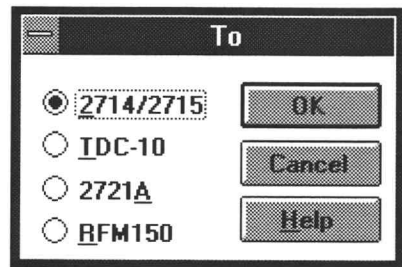

Figure C-10. The To “Selected Instrument” dialog box.
1. From the Transfer menu, choose To. The dialog box shown in Figure C-10 appears.